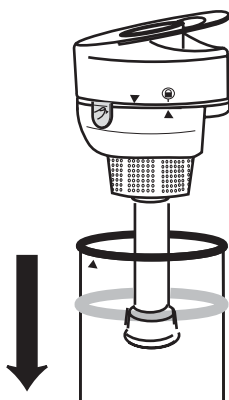

Figure 14b
2. Turn the Handle clockwise to the LOCKED position, the LOCK icon will line up with the arrow on the Shaft. (See Figure 14b.)